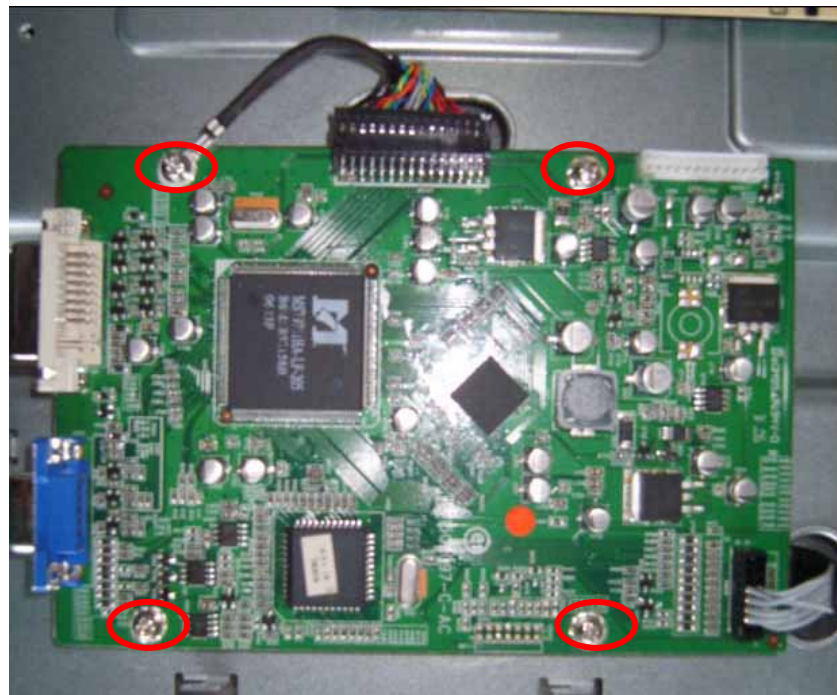

Fig 9
6. Remove the screws to remove main board.. (Fig 9)